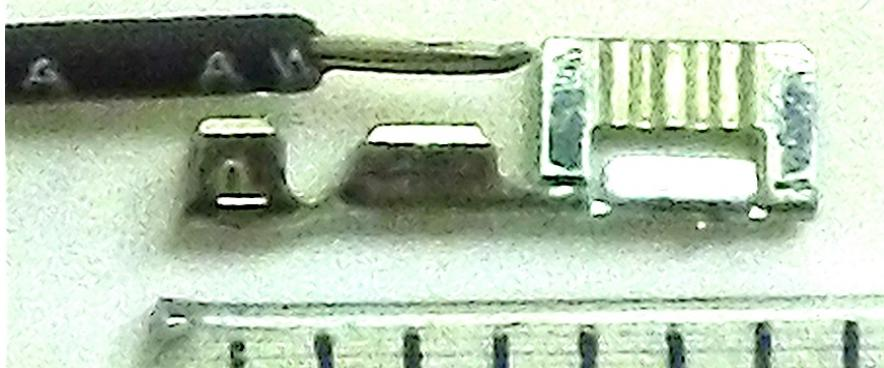

Figure 19: Wire with 1/8 inch of insulation stripped off before crimping. (Each division on scale = 1/16th inch).
Crimping requires 1/8 inch of bare wire be exposed by removing the insulation jacket with wire strippers. The relative positions of the crimp and stripped wire are shown in Figure 19.
2. Alternatively, load the crimp in the spring-loaded holder of the crimper tool first, and then insert the wire into the crimp with the amount of overlap shown in Figure 19. Make sure that the large part of the crimp is enclosed in the spring-loaded capture mechanism. Squeeze the crimper handle until completely closed, and then reopen. Release the crimp from the holder. A properly crimped wire is shown in Figure 20.